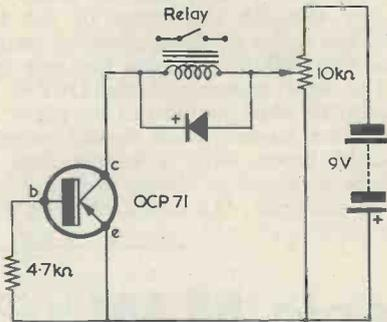

Fig. 2. An OCP71 can control a sensitive relay directly, without an intermediate amplifier
heavy current passed by the OCP71, when illuminated, is used to energise a small relay. The relay is connected in series with the collector as shown in Fig. 2, and should be able to close when passing a current of 1 to 3mA. A relay that is very suitable can be found in the U.S. Army surplus Beacon Receivers type BC-357-L. Alternatively, the ex-government relay type P.27258 can be adjusted to close at about 2mA. Failing this, a normal G.P.O. type 200 relay, with a coil resistance of 5kΩ and one contact set should close with about 3mA passing through the coil.
* When setting up the circuit of Fig. 2, or any similar circuit, the OCP71 collector current must not be allowed to exceed its limiting maximum rating of 20mA. It may be added, incidentally, that the OCP71 will function in the applications shown here with its base open-circuit.—EDITOR.